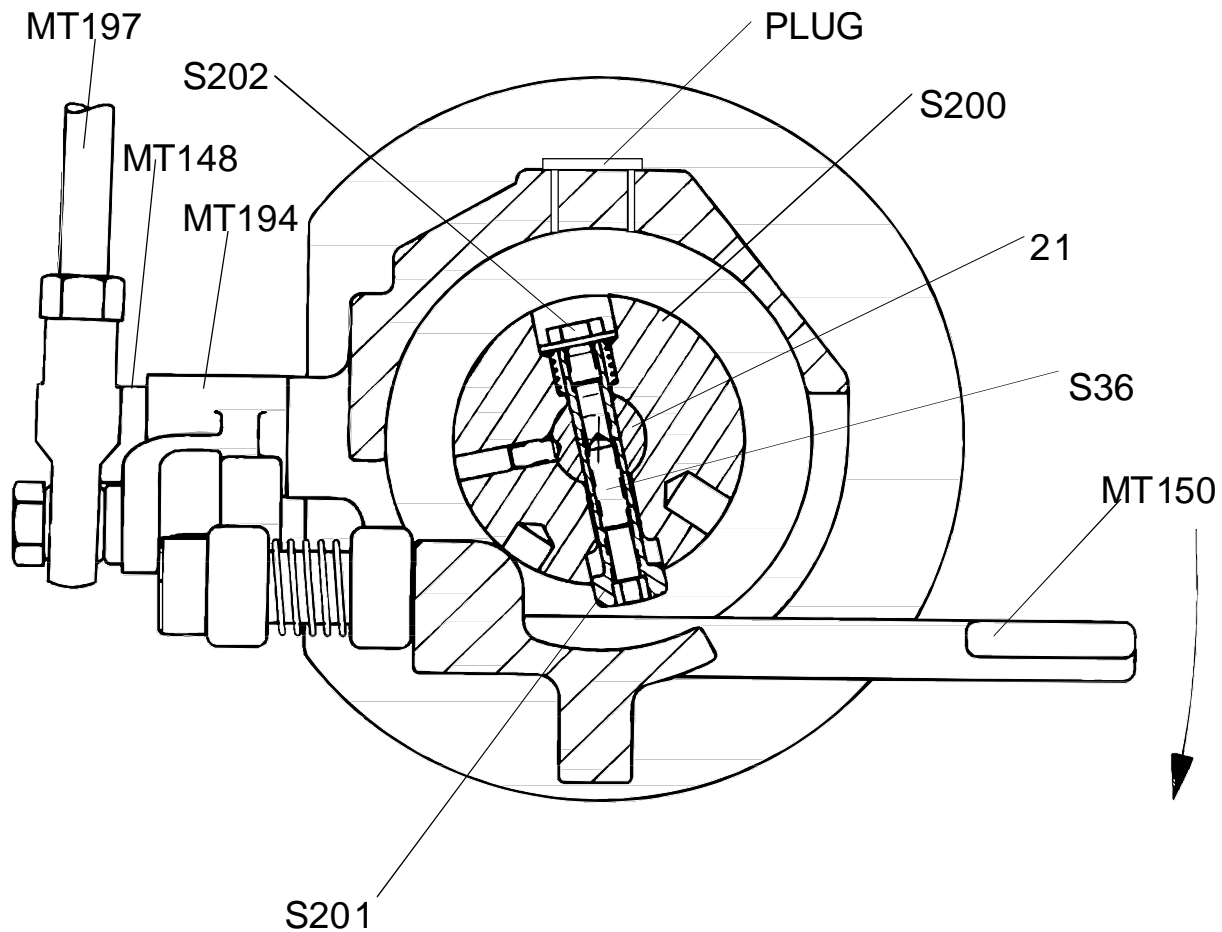

Figure E-3 Collar in Tripped Position
E.5.1 Trip Speed Setting (refer to Figure E-3, Collar in Tripped Position)